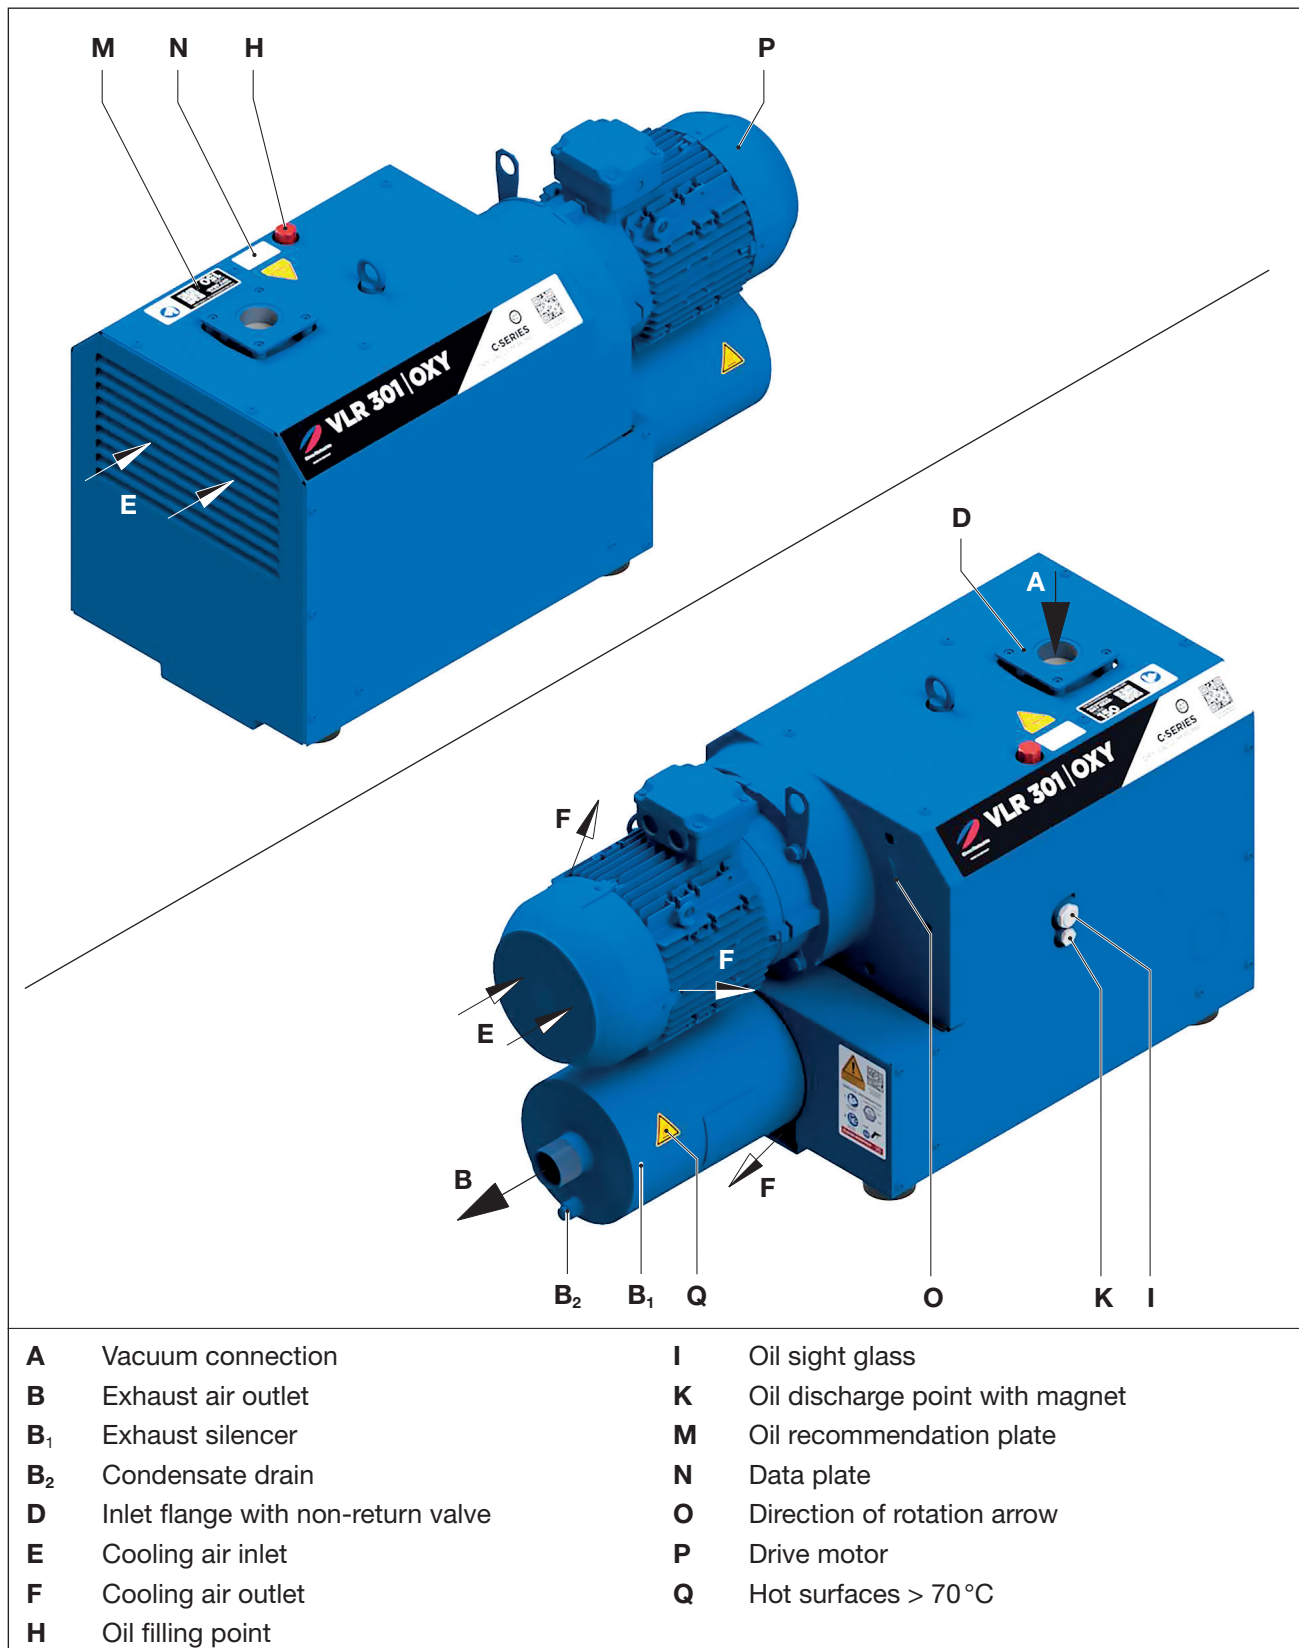

Fig. 2 Vacuum pump C-VLR 301
The C-VLR 301 is enclosed in an insulation hood. In order to dissipate compression heat, the cooling air is sucked through between the compressor and the hood using a drum fan that sucks in the fresh cooling air (Fig. 2/E) and discharges the heated air out of the cooling air outlet (Fig. 2/F). It is driven via a coupling by a flanged, three-phase standard motor.
The C-VLR 301 has a connection flange on the inlet side and an exhaust silencer on the pressure side (Fig. 2/B.). The intake air is cleaned by a mesh filter. An integral non-return valve prevents the evacuated system from being ventilated after the pump has stopped. A vacuum relief valve is incorporated into the machine.
- Oil filling point (Fig. 2/H), oil sight glasses (Fig. 2/I) and oil drain (Fig. 2/K) must easily be accessible.
- a) Remove the blind plug/adhesive film on the vacuum connection (Fig. 2/A) and exhaust air outlet (Fig. 2/B).
- b) Connect the pipe to the inlet flange (Fig. 2/D).
- c) The exhausted air can be blown out through the exhaust air outlet (Fig. 2/B) on the exhaust silencer (Fig. 2/B,) or led away using a hose or pipeline.